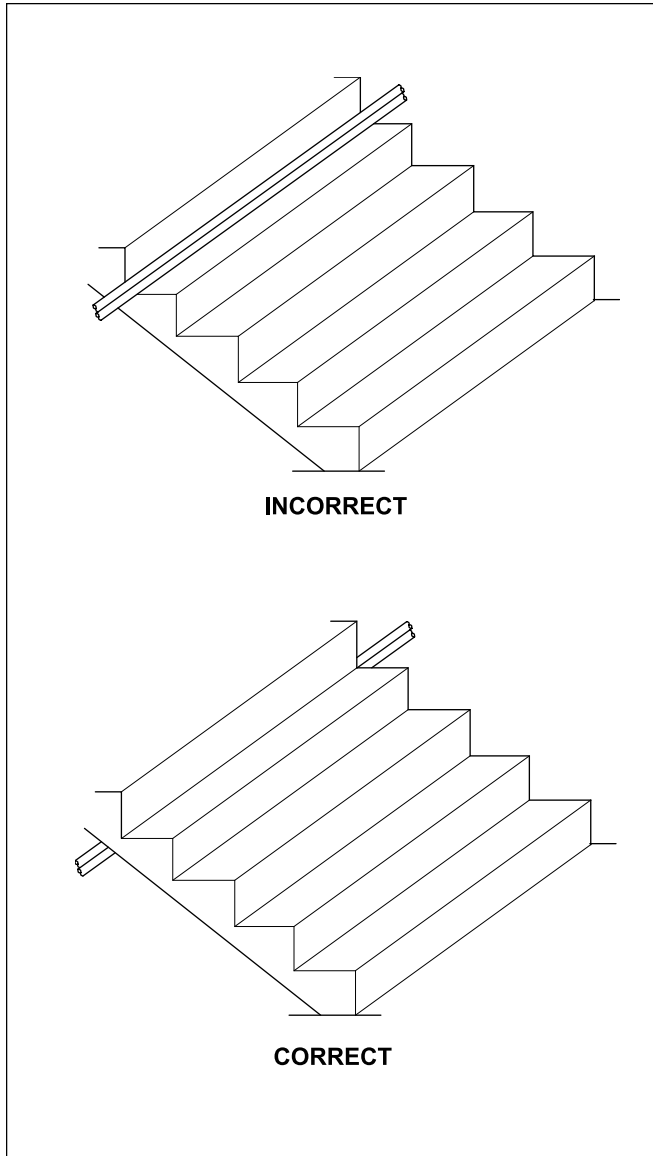

Figure 12
- Keep tubing away from walkways or areas where it could present a safety hazard or be damaged by pedestrian or vehicular traffic (see Figure 12). When installing the tubing, take into consideration how the machine will be operated and serviced.